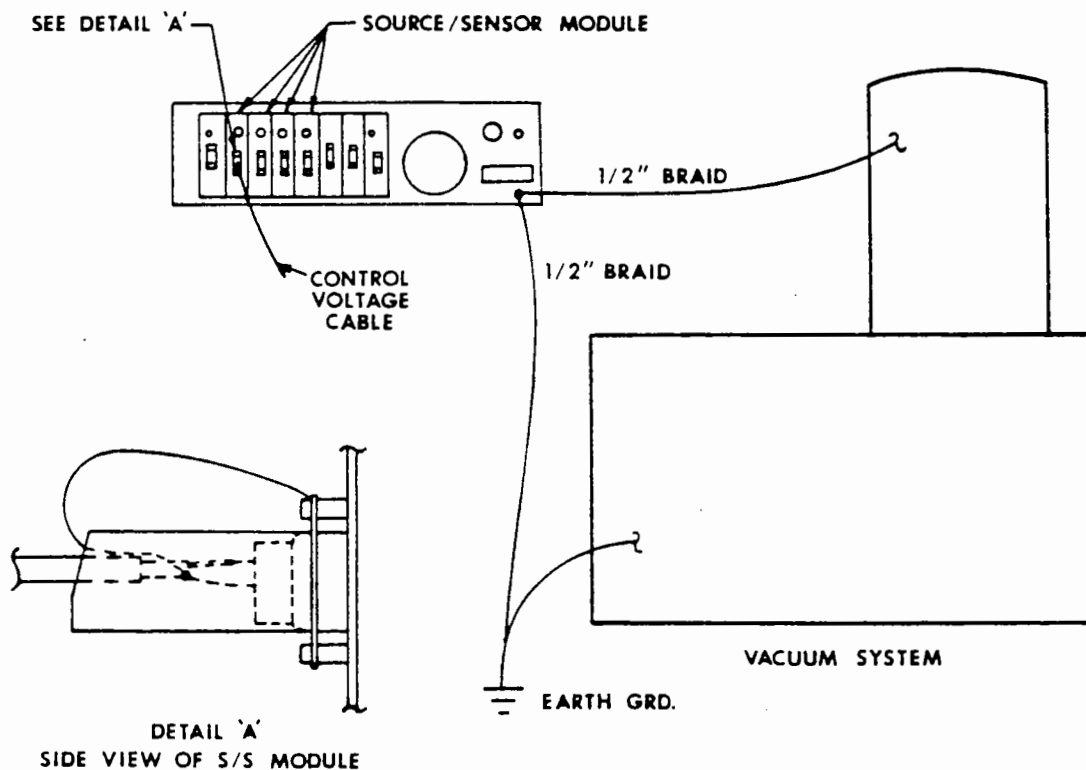

Fig. 3-1 Grounding Diagram
- Connect a ground braid between the lug on the rear panel of the instrument and the vacuum system's main ground points, as well as a ground between the cable shield and the source/ sensor connector screw, as shown in Fig. 3-1.